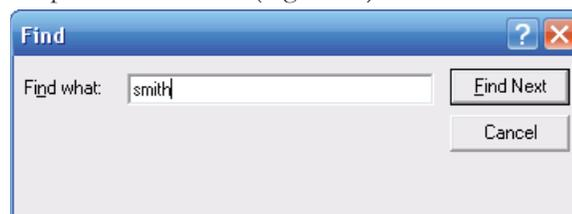

Figure 10: Find User
The Users list has a search function that allows users to be found by name. Click on the Users list and press Control-F on your keyboard to open the search box (Figure 10). You can search on part or all of a user's name.
1. In the Central IMT, click on any name in the **Users** list and press Control-F to open the Find box (Figure 10).